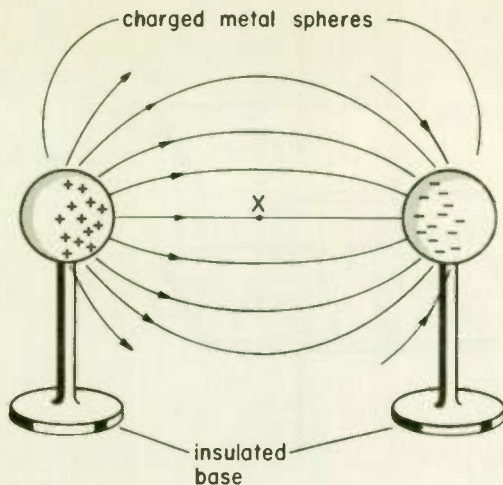

Fig. 36
- Figure 36 shows two charged metal spheres standing on insulated bases. The lines with arrowheads between the two spheres indicate (a) *(electric lines of force) (magnetic lines of force) (direction in which an electron would move)*. If you wanted to indicate in the figure that the charge on the spheres was increased, you would (b) *(show the spheres closer together) (draw the lines of force closer together)*.
- If an electron were placed halfway between the spheres at point *X* in Fig. 36, the electric field would cause it to move (a) *(toward the right) (toward the left) (up) (down)*. If a proton were placed at point *X*, the electric field would cause it to move (b) *(toward the right) (toward the left) (up) (down)*. If a permanent magnet (electrically neutral) were placed at point *X*, the electric field would (c) *(move it toward the right) (move it toward the left) (exert no force on it)*.
- If the two spheres in Fig. 36 were moved closer together, the electric
4. There are two ways to increase the strength of the electric field between the two spheres, Fig. 36. They are (a) _____ and (b) _____.